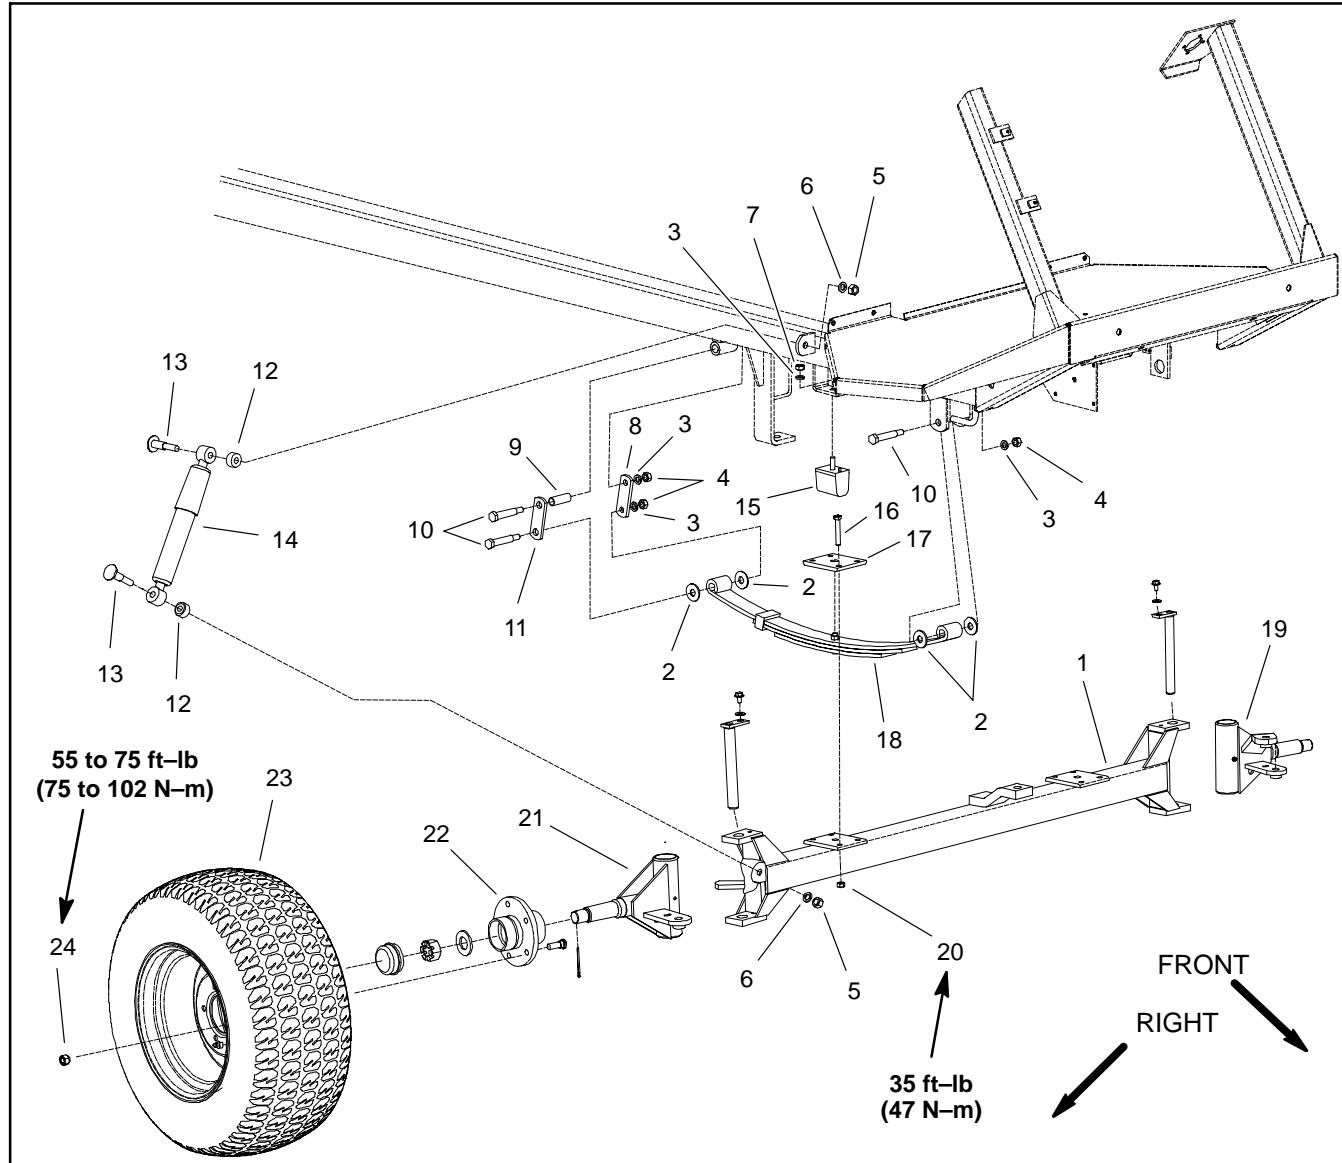

Figure 5
## Disassembly (Fig. 5)
4. Disassemble front suspension as needed using Figure 5 as a guide.
## Assembly (Fig. 5)
1. Assemble front suspension using Figure 5 as a guide.